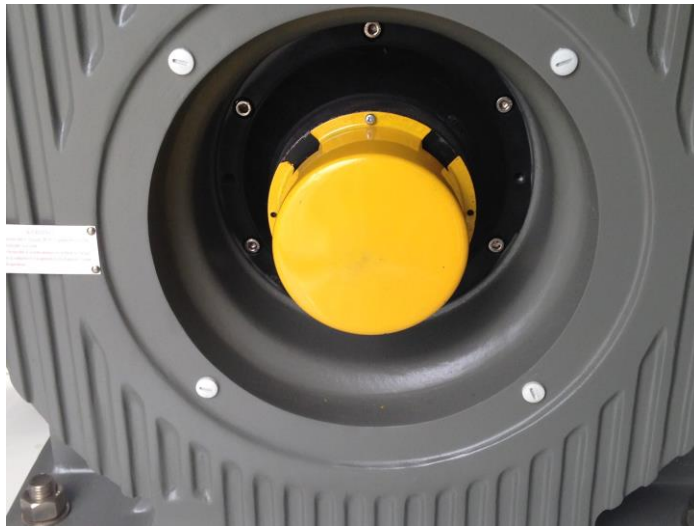

Figure 9: Remove encoder cover
1. Remove encoder cover using the Phillips screwdriver. See Figures 9 and 10.